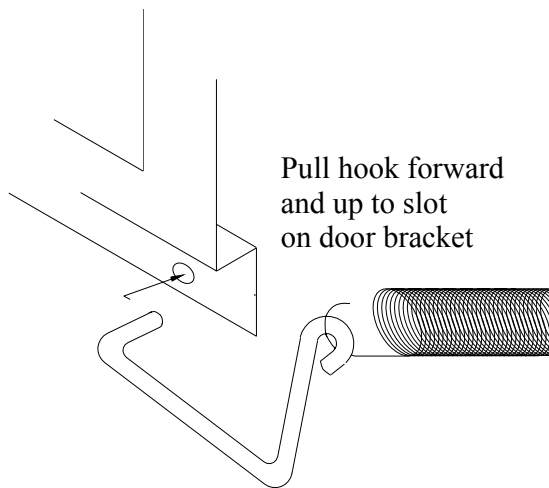

Fig. 4– Removing the Trim Hooks
- 1) To remove the glass, remove the two trim hooks inside the valve chamber. (see figure 4)